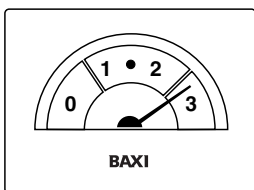

Fig. 6
3. A pressure of 3 bar or greater indicates a fault (Fig. 6). The safety pressure relief valve will operate at a pressure of 3 bar. It is important that your Service Engineer is contacted as soon as possible.